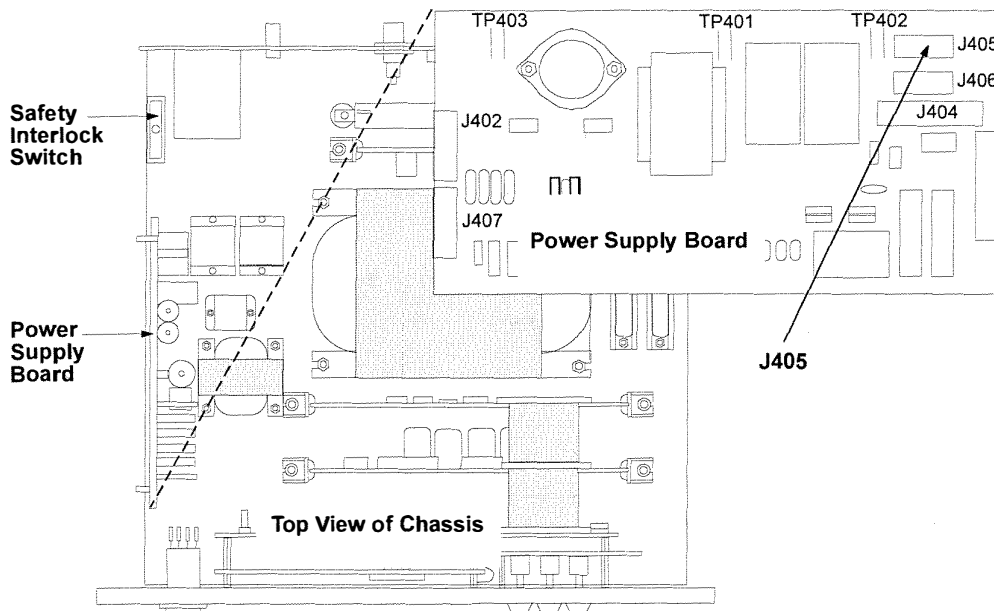

Figure 4-2. J405 and Safety Interlock
3. Disconnect J405 on the Power Supply board (Figure 4-2).
6. Pull the safety interlock switch up (Figure 4-2) to disable it.